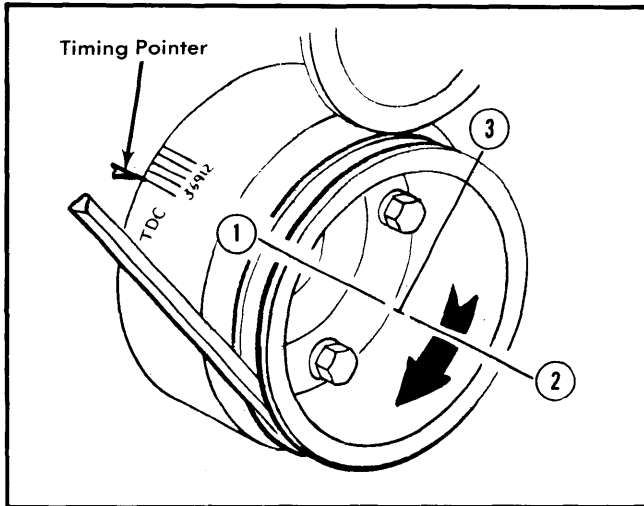

Fig. 8 Crankshaft Positions for Adjusting Hydraulic Valve Lifters
3) Rotate crankshaft until No. 1 piston is at TDC (point 1, see Fig. 8) after compression stroke as indicated by timing mark on crankshaft damper and pointer. Make chalk mark on damper 180° (point 2) from TDC mark. Make a chalk mark 90° (point 3) clockwise from TDC mark.